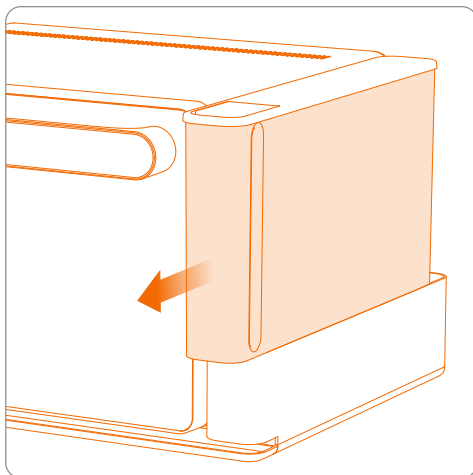

figure 1: removing the Water Tank
1. Remove the water tank by sliding outwards as shown in fig. 1.